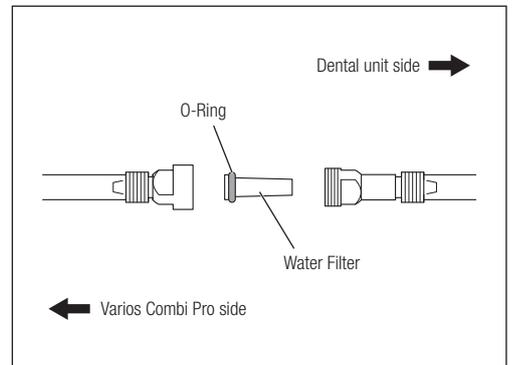

Fig. 58
- 5) Place the new Water Filter with the O-ring on the Varios Combi Pro side and reassemble by following the disassembly steps in reverse (Fig. 58).